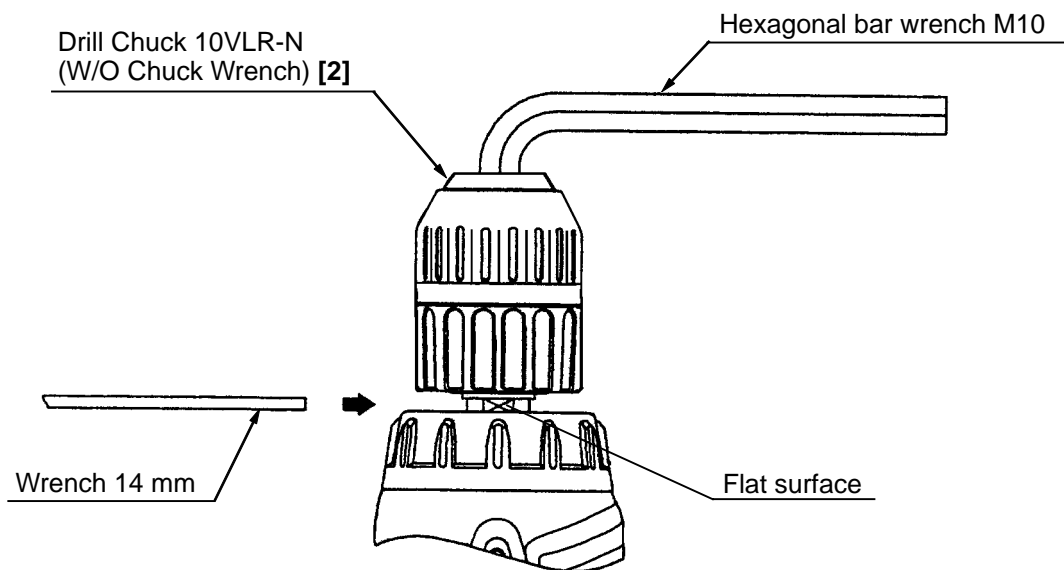

Fig. 4
(1) Removal of the Drill Chuck 10VLR-N (W/O Chuck Wrench) **[2]** (See Fig. 4.)
- (b) Fix the hexagonal bar wrench M10 into the Drill Chuck 10VLR-N (W/O Chuck Wrench) **[2]** as indicated in Fig.4. Next, apply the Wrench 14 mm (special repair tool, Code No. 873929) **[601]** to the flat surfaces on the spindle to hold it steady, and remove it by turning counterclockwise. If it is difficult to loosen, use a pipe extension or similar tool.